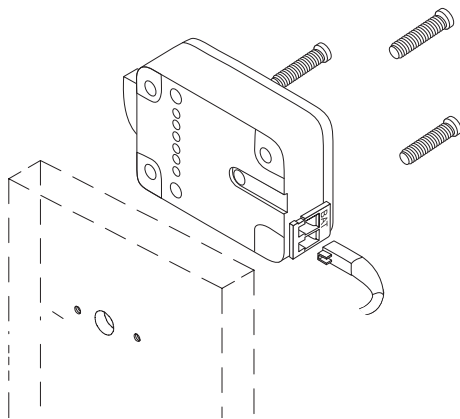

Figure 9
- ⑭ Using the three (3) mounting screws provided by the factory, screw down the lock to the mounting plate or door.
- Make sure you do not pinch the wires, see *Figure 9*.